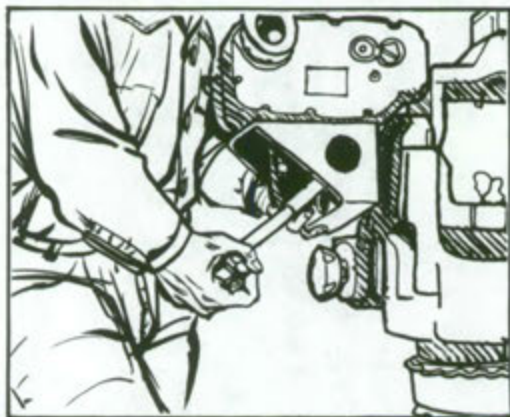

Figure 10. Secure the sight.
c. Lift up on the latch assembly to secure the sight (figure 10). (Do not let go until you are sure it is secure.)